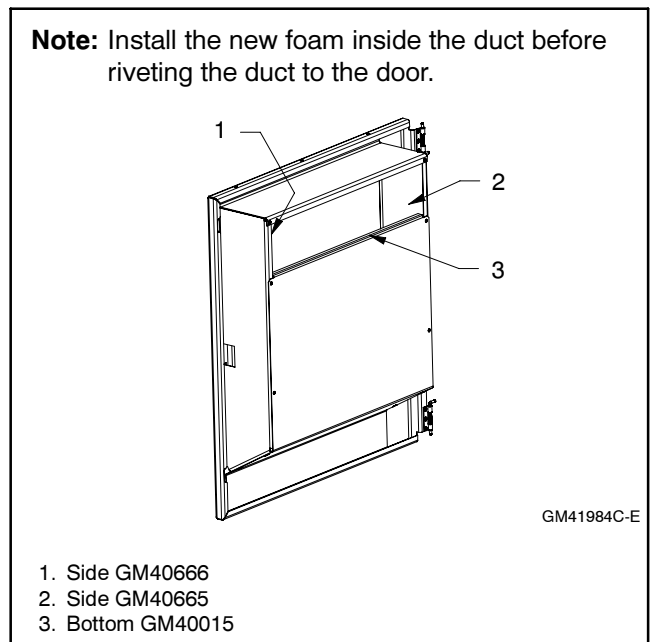

Figure 4 Foam Installation (inside the duct)
9. Install the new foam (GM40015, GM40665, and GM40666) on the inside of the duct before riveting the duct to the door. See Figure 4.